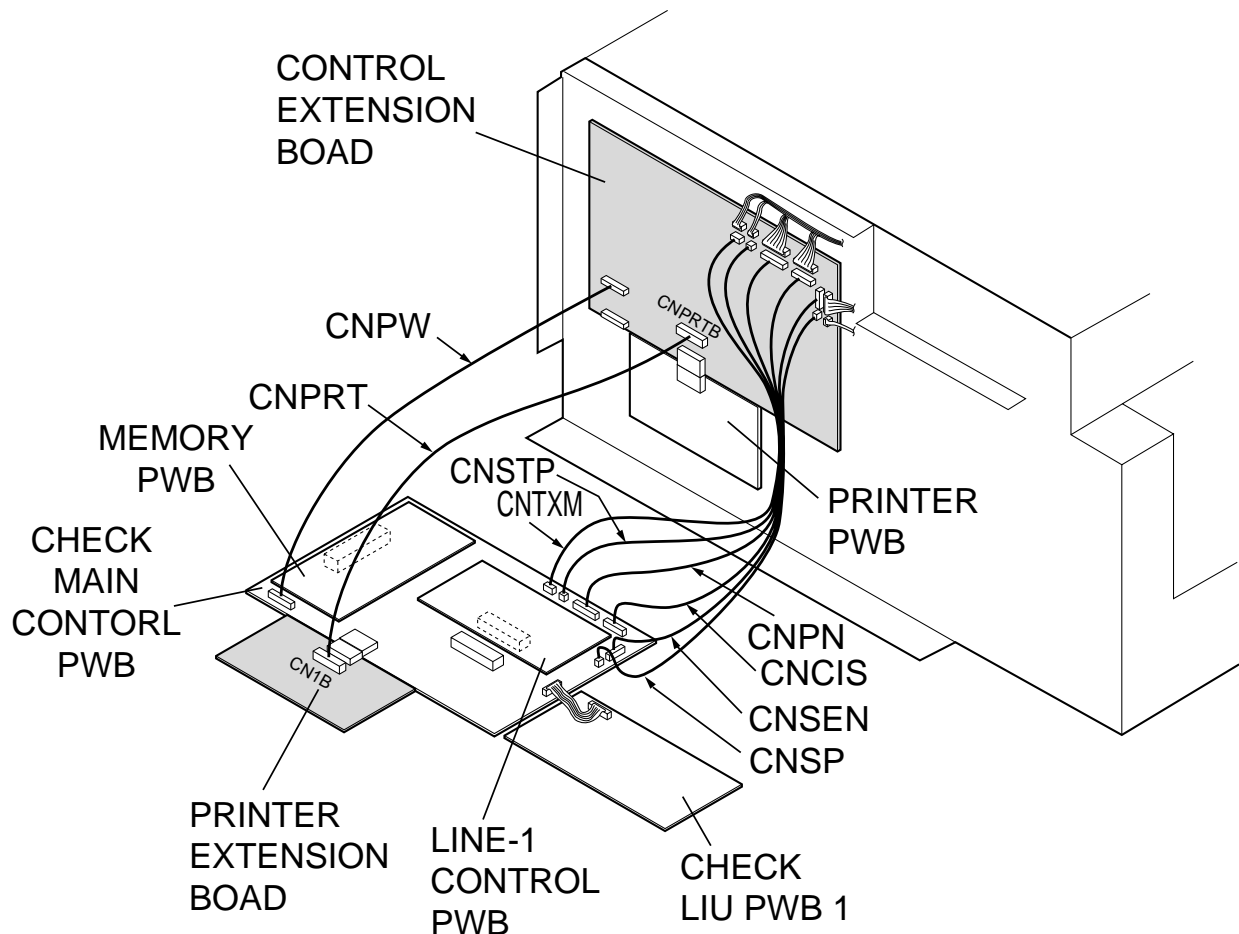

Fig. 1
- 3) Connect the Extension Cables to the connectors (B side) of Extension Board (Control-EX) as shown in Fig. 1.